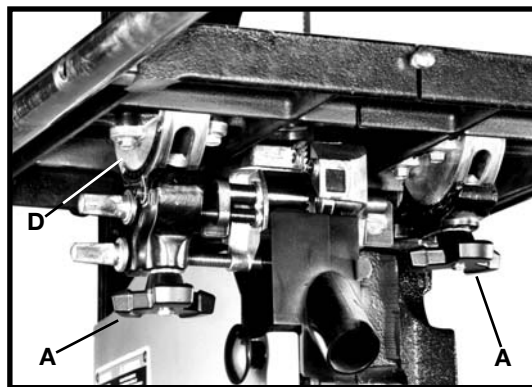
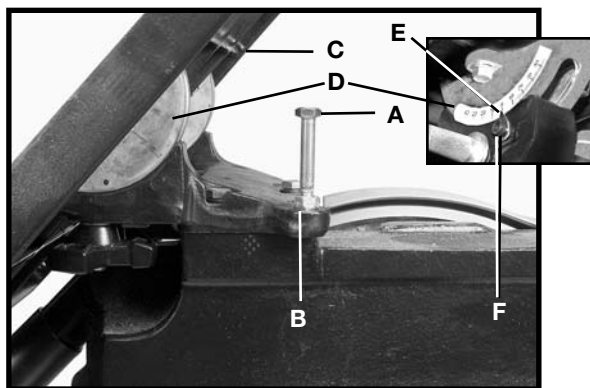
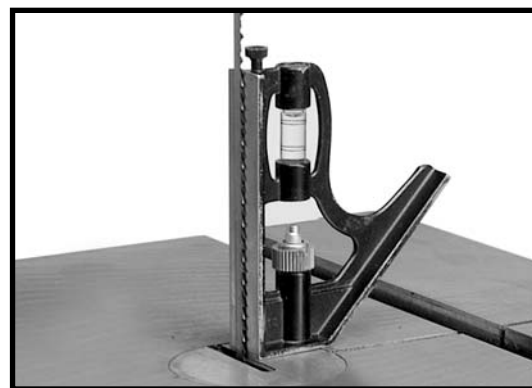

Fig. 20
Fig. 21
Fig. 22
1. The table on the band saw can be tilted 45 degrees to the right and 10 degrees to the left. To tilt the table to the right, loosen the two locking knobs (A) Fig. 20, tilt the table to the desired angle as shown on the scale (D) Figs. 20 and 21, and tighten two locking knobs (A).
2. To tilt the table (C) Fig. 21 to the left, loosen the two locking knobs (A) Fig. 20, and tilt the table to the right until access to the table stop (A) Fig. 21 is gained. Remove the table stop (A) Fig. 21, and tilt the table to the left 10 degrees. Tighten the two locking knobs (A) Fig. 20.
The tool is equipped with an adjustable table stop (A) Fig. 21 that allows the table to be set at 90 degrees to the blade.
Tilt the table (C) Fig. 21 to the right until the table stop (A) Fig. 21 contacts the table. Place a square on the table against the blade (Fig. 22). Check to see if the blade is 90 degrees to the table surface. If not, then do the following:
2. Loosen the locknut (B) Fig. 21 to free the adjusting screw (A) Fig. 21. Turn the adjusting screw (A) right or left to raise or lower the table stop, then tighten the locknut (B).
3. Lower the table. Check to see that the table is 90 degrees to the blade (Fig. 22).
4. When the table is 90 degrees to the blade, check the pointer (E) Fig. 21 to see if it is situated correctly. If not, loosen the screw (F) Fig. 21 and move the pointer to the correct position. Tighten the screw.